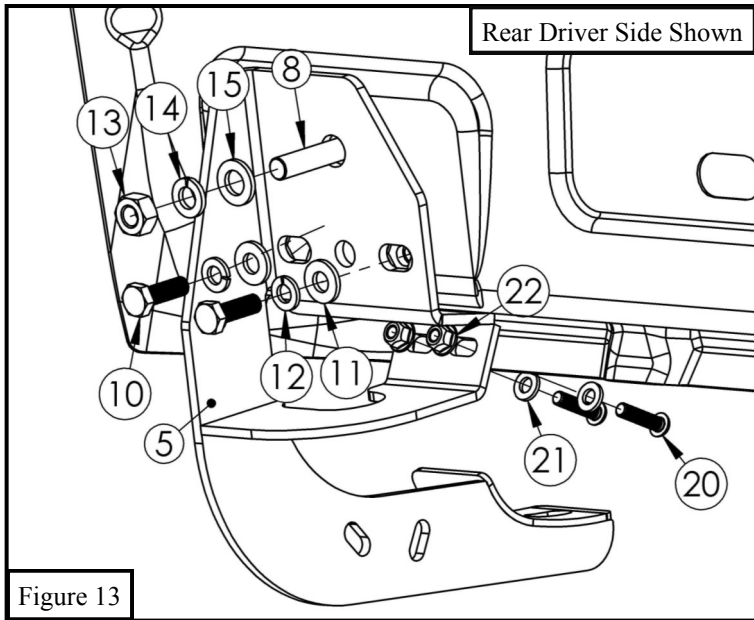

Figure 13
7. Locate (1) Mount Bracket C (Item 5) and install at the driver side rear mounting location. Install (1) M8 Riv Cert, refer to **Step 3**, if mounting location does not have threaded holes. Refer to **Figure 3**. Install (1) M10 Stud / M8 Nut Plate and secure using one M10 plastic retainer (Item 19). See **Figure 11**. Leave bolt plate to the side if mounting location has threaded holes or factory M8 riv certs. See **Figure 9**. Drill two 1/4" holes in the pinch weld, before drilling place masking tape on drill surface to prevent paint chipping. Loosely install mounting bracket to the rocker panel using (2) M8 hex head bolts (Item 10), (2) M8 flat washers (Item 11), (2) M8 lock washers (Item 12), (1) M10 flat washer (Item 15), (1) M10 hex nut (Item 13), (1) M10 lock washer (Item 14), (2) M6 button head bolts (Item 20), (2) M6 flat washer (Item 21), and (2) M6 serrated flange nut (Item 22). See **Figure 13**.